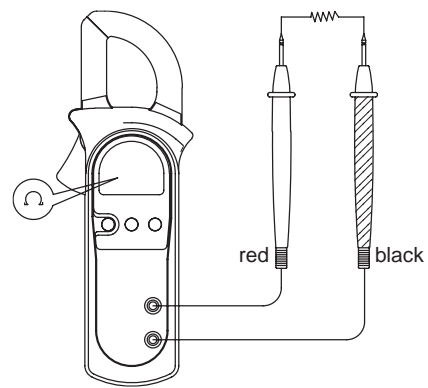

figure 5
3. Center the conductor within the transformer jaw like figure 5
C. Measuring Resistance (see figure 5)